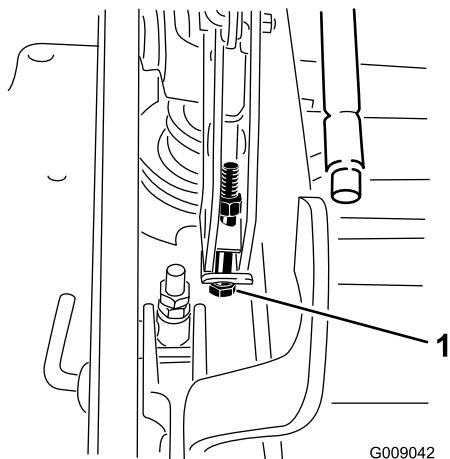

Figure 89
- If the deck is too low, tighten the single point adjustment bolt by rotating it clockwise. If the deck is too high, loosen the single point adjustment bolt by rotating it counterclockwise (Figure 89).